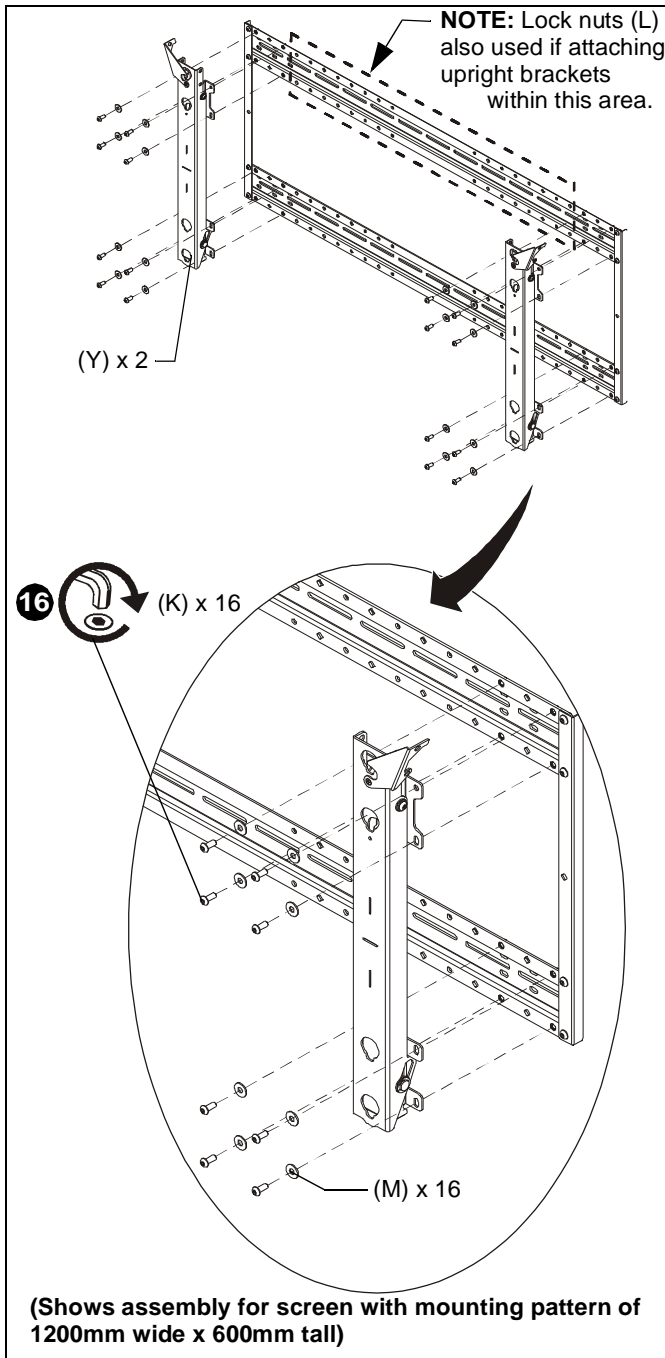

Figure 11
16. Attach two upright brackets (Y) to wall plate assembly using eight 5/16 x 3/4" button head screws (K) and 5/16" washers (M) per upright bracket. (See Figure 11)